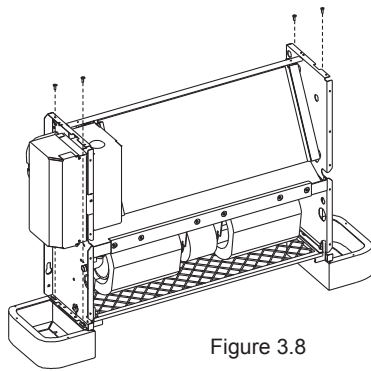

Figure 3.8
- 2) Put the air conditioner on the mounting bracket, and secure it with screws (refer to Figure 3.8).